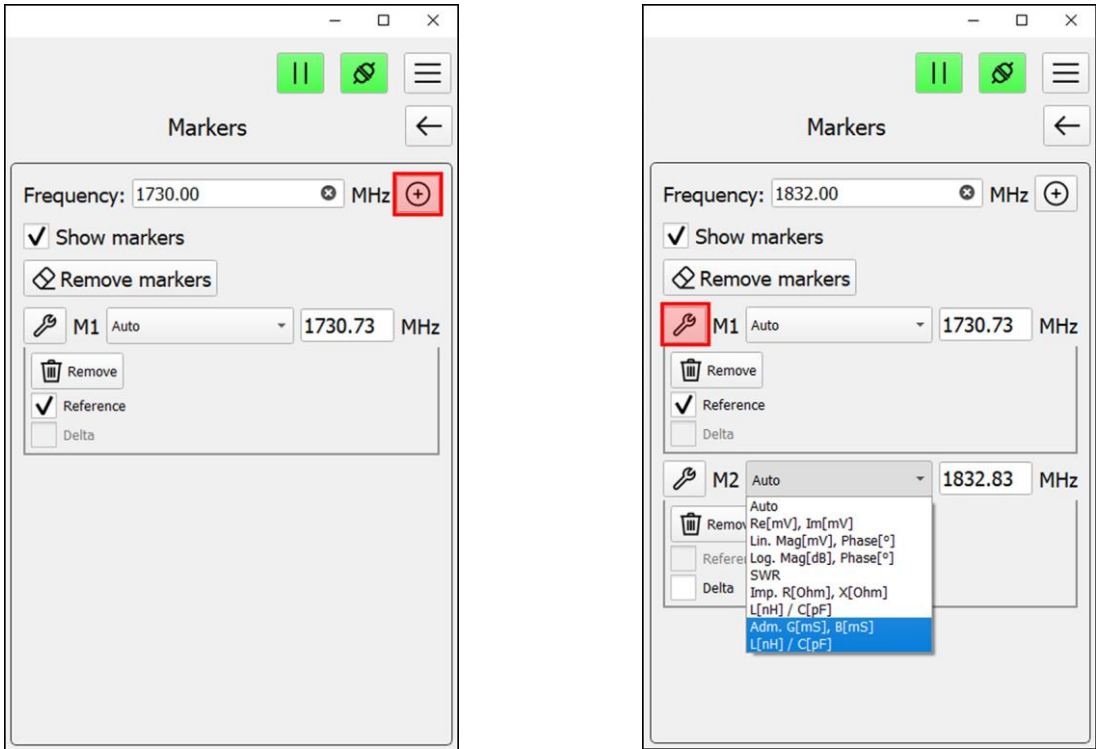

Figure 5.5 - Setting marker measurement parameters
5.4.1. Enter the «**Markers**» section of the main menu (figure 5.5).